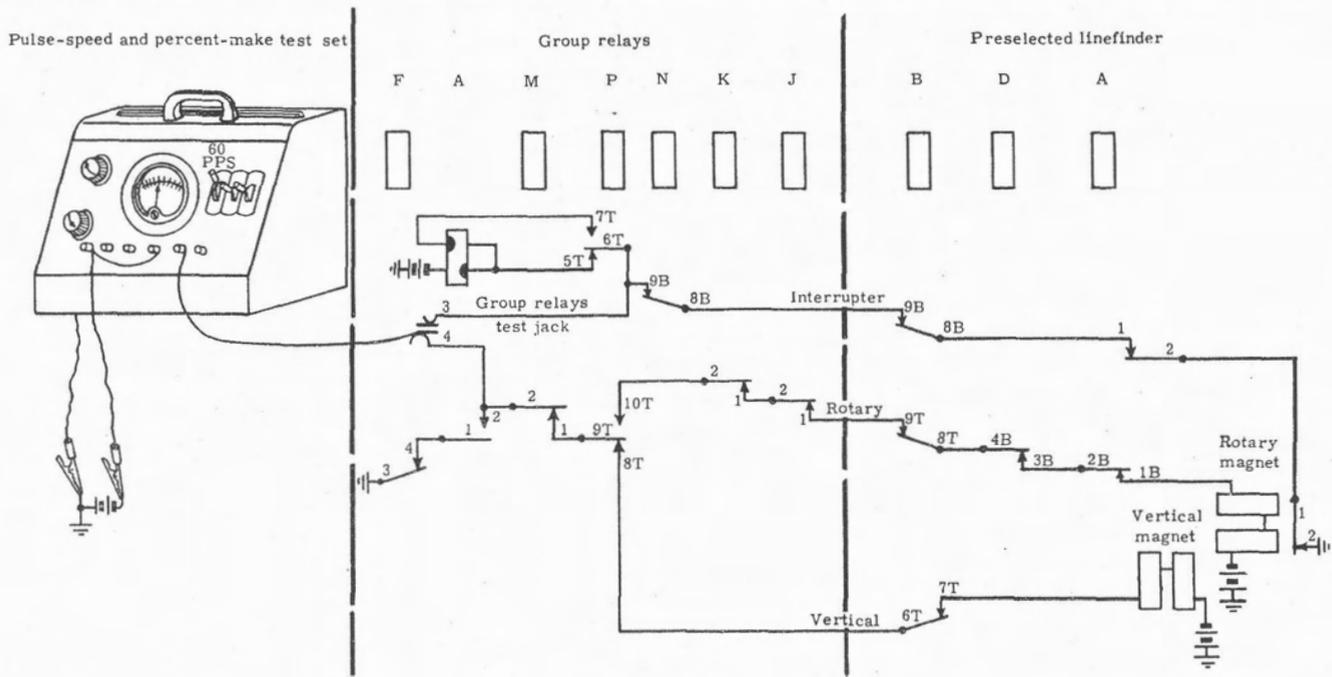

Figure 38. Stepping-speed and pulse-ratio test.
6.56 Speed and ratio test (figure 38). Plug a suitable speed and ratio meter into group-relays test-jack spring 4 to check the preselected linefinder's stepping. Connect together the FINDER TEST or TEST LINE test jacks to operate the preselected linefinder. The same ground that operates the vertical and rotary magnets (from relay F contact 3) closes a circuit for the speed and ratio meter. Thus, the meter indicates the speed and the percent-make ratio of pulses to the vertical and rotary magnets.